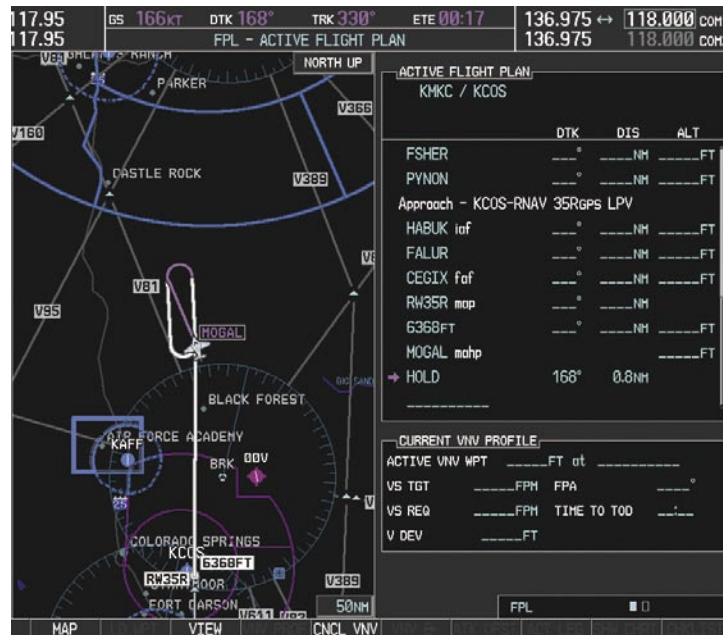

Figure 5-138 Establishing the Holding Pattern
- 26) The aircraft continues climbing to "AT or ABOVE" 10,000 feet at MOGAL. A holding pattern is established at the MAHP (MOGAL) as shown in Figure 5-138.